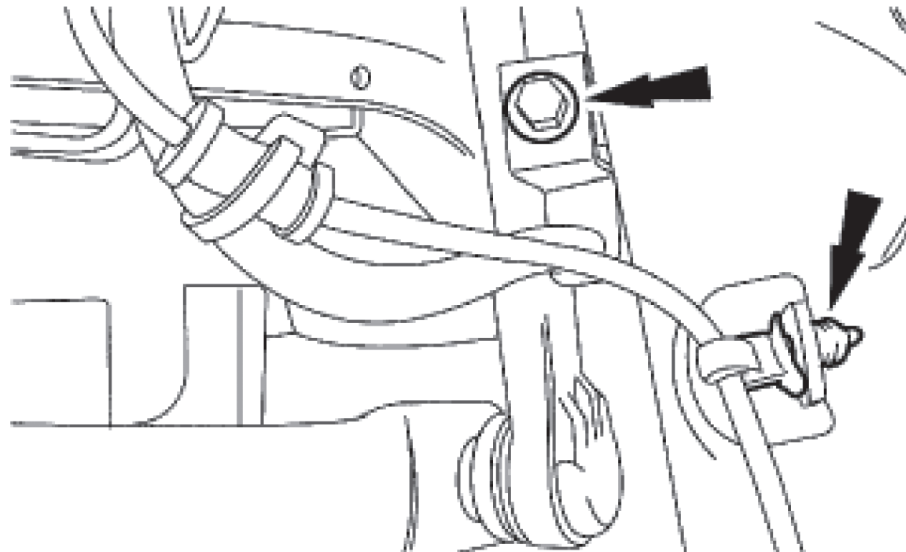

fig. C.1
1. Remove the bolt from the brake line tab and release brake line from the strut (Fig. C.1).
2. Unclip the sensor wire from the strut (Fig. C.1).